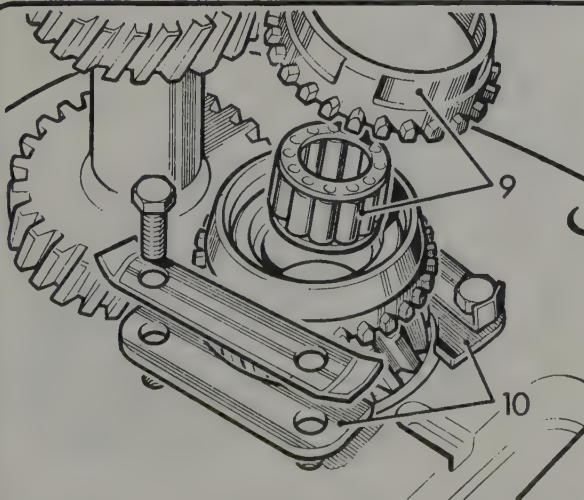

Fig. 6.14. Primary pinion, synchromesh cone and needle roller bearing (9) and bearing retaining plates (10)
- 21 Remove the cynchromesh cone with needle roller bearing "9" from the primary pinion (Fig. 6.14).